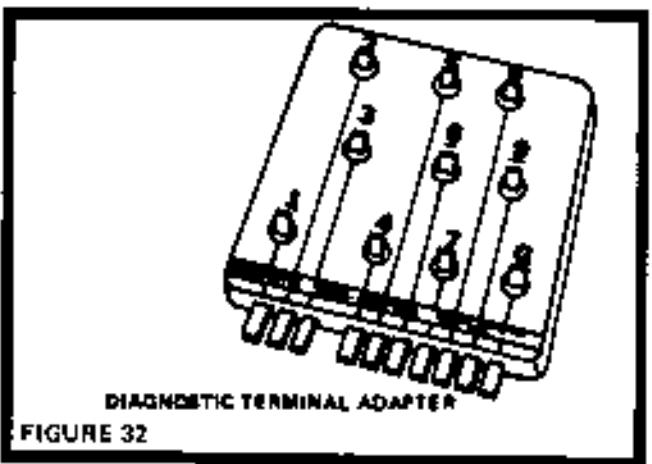

FIGURE 32
b. The Diagnostic Terminal Box is designed to accept the Diagnostic Terminal Adapter (optional) (Fig. 32), which is available from Sears (Part No. 677A823). If you order the Adapter, also order the Test Procedure Manual (Manual No. 8441J), showing diagnostic procedures and components of electrical circuits.